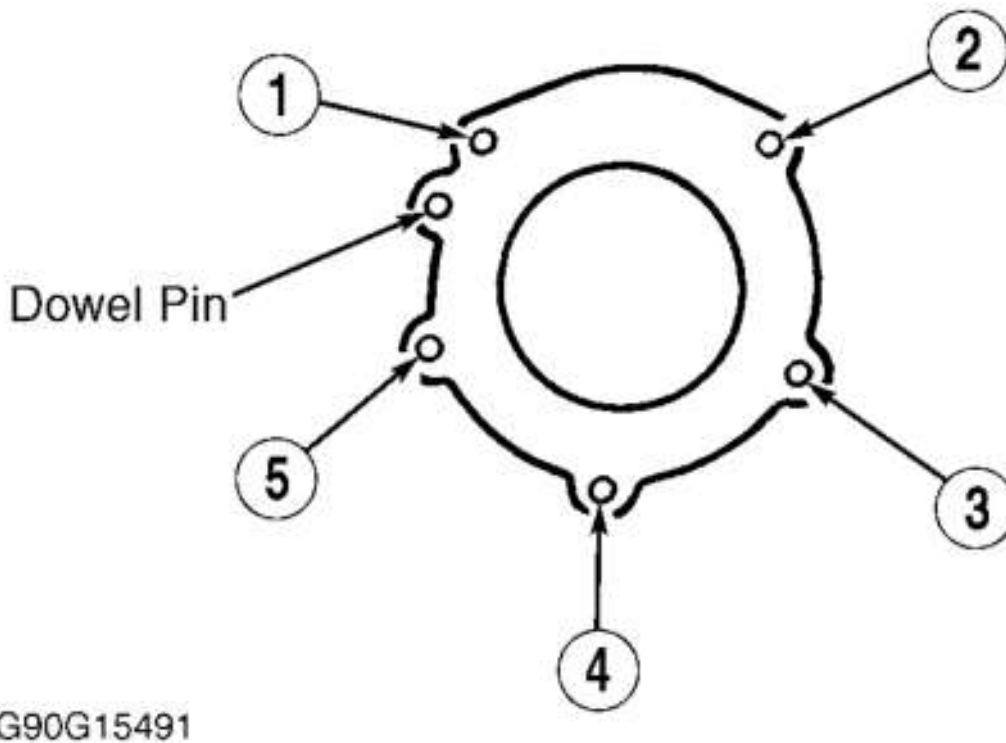

Fig. 2: Transfer Case-To-Extension Housing Tightening Sequence All Except Borg-Warner 1345 & 1356)
4. Tighten transfer case-to-extension housing bolts in sequence. See **Fig. 2**. Tighten bolts to specifications. See TORQUE SPECIFICATIONS table at end of article. Fill transfer case with 1.5 qts. (1.4L) of Mercon ATF (XT-2-QDX or EAZ-19582-B).
1. Install new transfer case-to-extension housing gasket. To complete installation, reverse removal procedure. Tighten transfer case-to-extension housing bolts in sequence. See **Fig. 2.**
1. Install new transfer case-to-extension housing gasket. To complete installation, reverse removal procedure. Tighten transfer case-to-extension housing bolts in sequence. See **Fig. 2**.